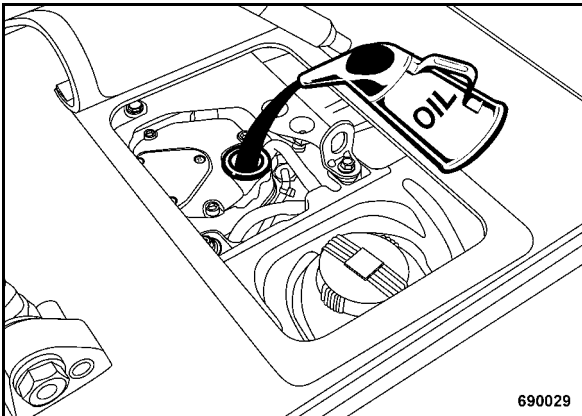

Fig. 60
- Fill in fresh engine oil through the filler opening (Fig. 60).